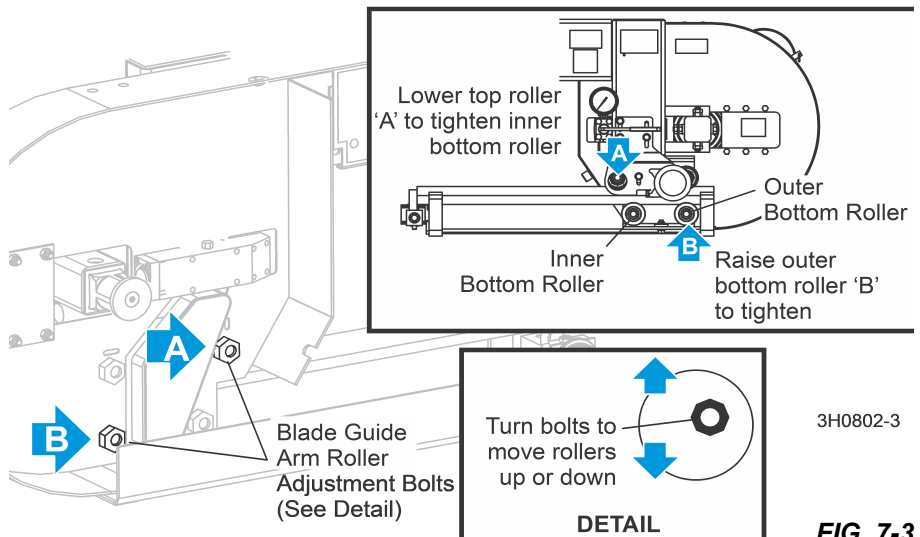

FIG. 7-3
- If the outer lower roller is loose, adjust the outer lower roller up. See FIG. 7-3.